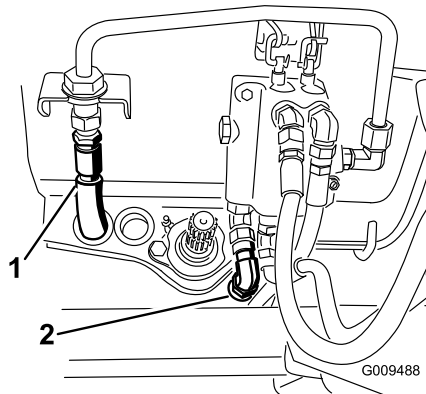

Figure 77
15. Disconnect the tank hose from the control valve hard line (Figure 77). Cap the hose and fitting. Pull the tank hose back toward the rear of the frame.
16. Disconnect the pressure hose from the control valve (Figure 77). Cap the hose and fitting. Pull the hose back toward the rear of the frame.